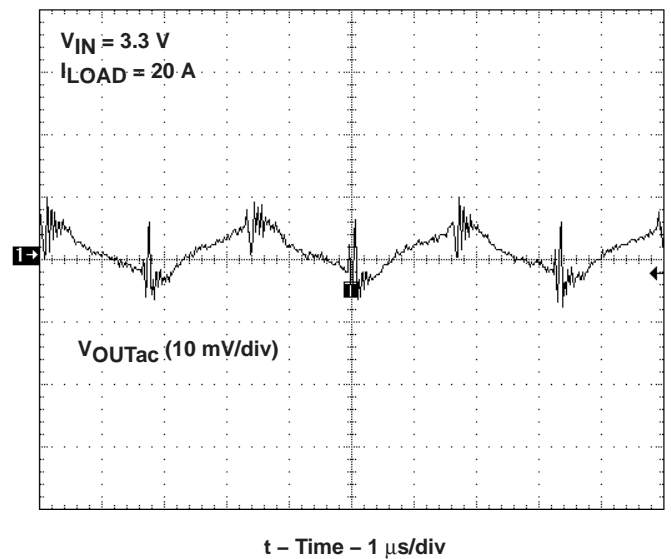
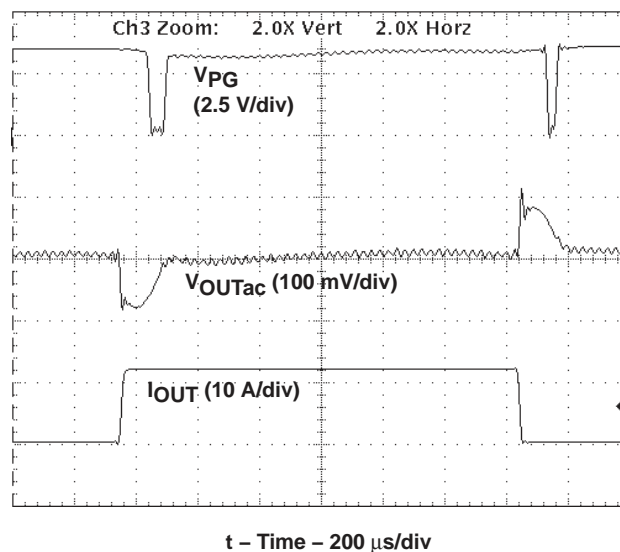

Figure 5. Output Ripple
Figure 6. Transient Response
The output ripple is about 15 mVP-P at 20-A output which is shown in Figure 5. When the load changes from 0 A to 13 A, the overshoot voltage is approximately 80 mV, and the undershoot is approximately 60 mV as shown in Figure 6. When the transient comparator is triggered, the powergood (PG) signal goes low.